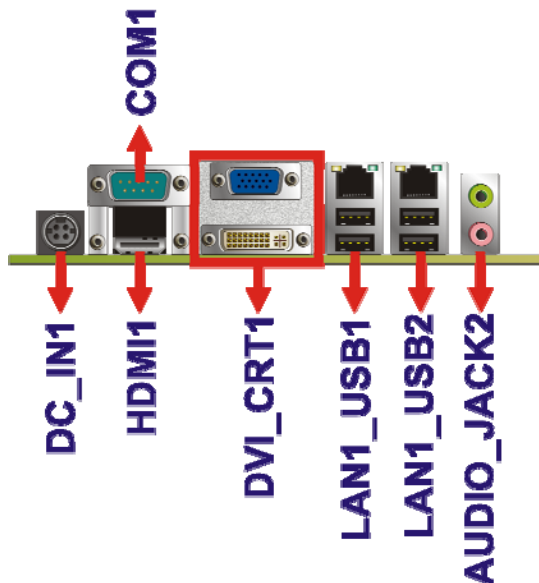

Figure 3-20: KINO-DH610 External Peripheral Interface Connector
Figure 3-20 shows the KINO-DH610 external peripheral interface connector (EPIC) panel.
CN Location:	See Figure 3-20
- CN Location:** See **Figure 3-20**
CN Location: See **Figure 3-20**